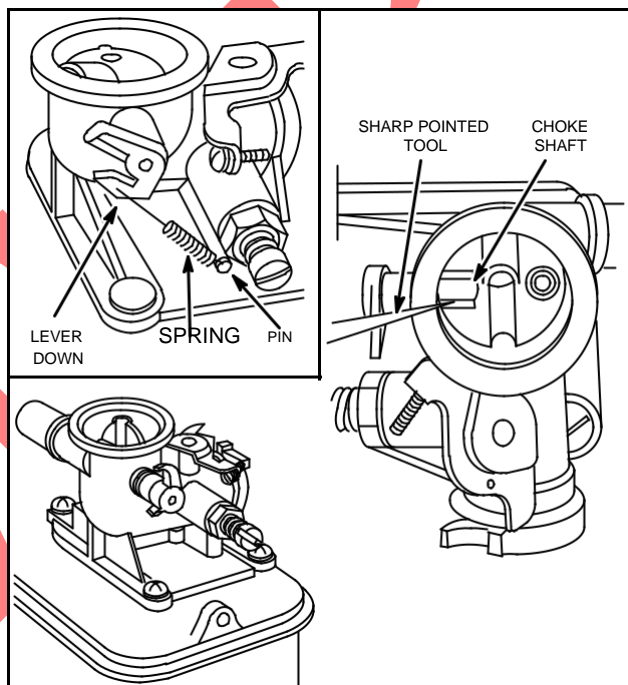

Fig. 232 - CHOKE SHAFT AND PLATE - CHOKE-A-MATIC
1. To remove choke parts, first disconnect choke return spring (when used), Fig. 232.